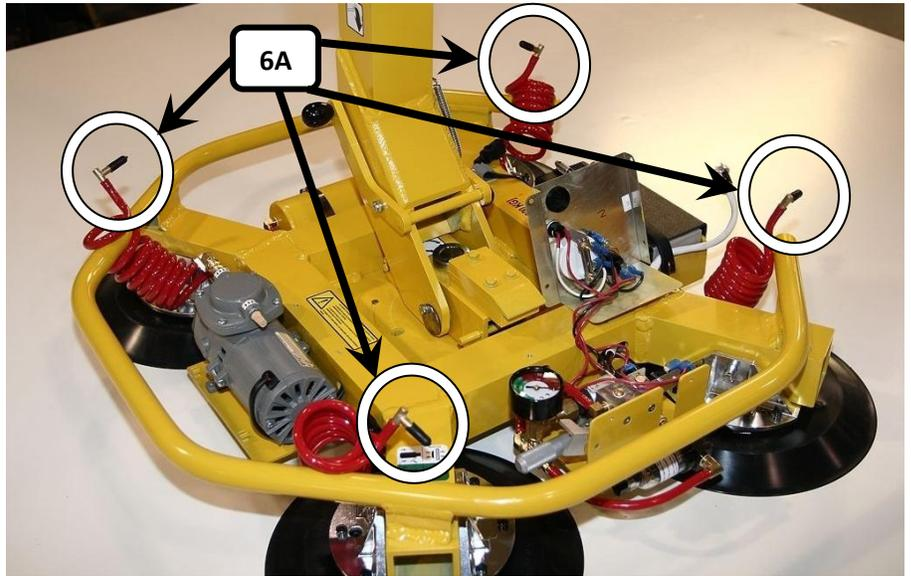

FIGURE 6
See **FIGURE 6**.
- 5) If it was determined that the leak is in one or more of the pad fittings or the coiled hose, reattach one section of coiled hose to its corresponding coupling, cap off the pad fitting and retest. Refer to **FIGURE 6** but reconnect only one section of coiled hose to a hose coupler at a time.